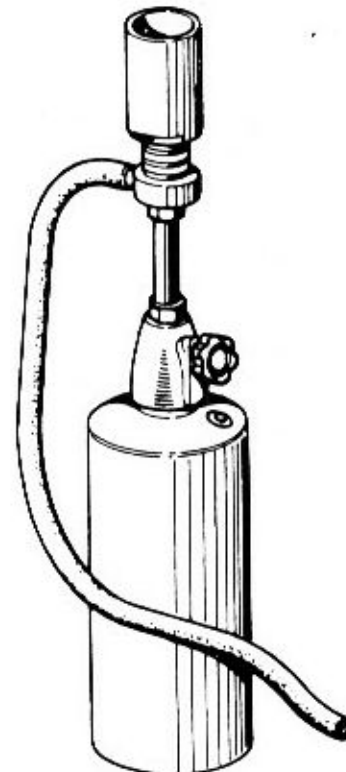

Fig. 3 Propane gas pump leak tester.
- Propane gas leak indicator (fig. 3).
Use propane pressure indicator (fig. 3), attached with a one meter long rubber tube. The engine is turned off and all fans or ventilators in the surrounding vicinity must be turned off. The car must not be located where there is any moving air, otherwise any leaking FREON gas will be blown away and not noticed.